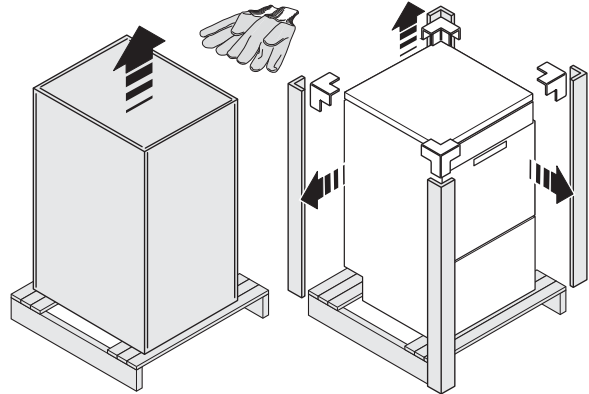

Figure 4 Unpacking
- Make the water supply and drain connections and other connections as indicated in Table 2 and par. Figure 4 "Unpacking".
- Wear protective gloves and unpack the machine (Figure 4).